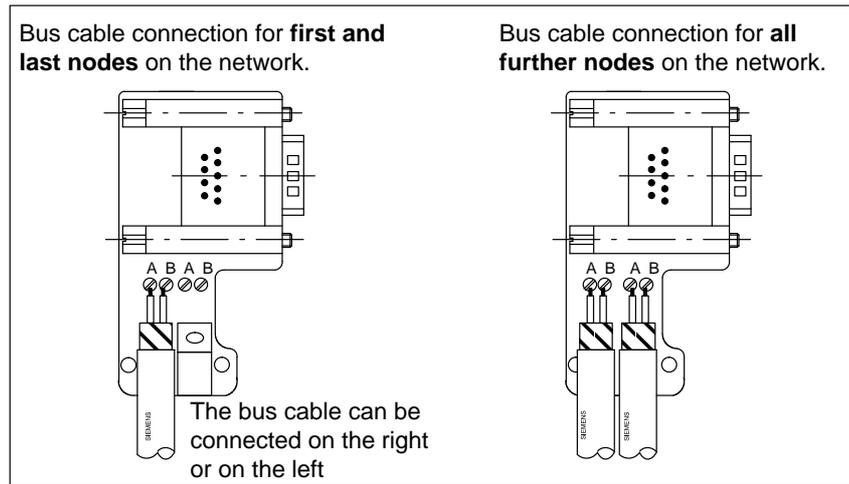

Figure 3-17 Connecting the Bus Cable to the Bus Connector (6ES7 972-0B.10-0XA0)
5. Insert the green and red wires into the screw-type terminal block as shown in Figure 3-17.